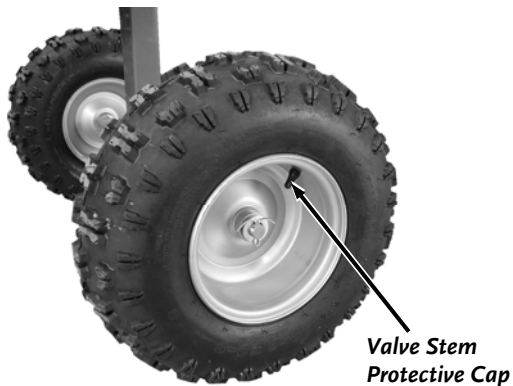

Figure 8
- Remove the Valve Stem Protective Cap (**Figure 8**) and check the tire pressure with a Tire Pressure Gauge.